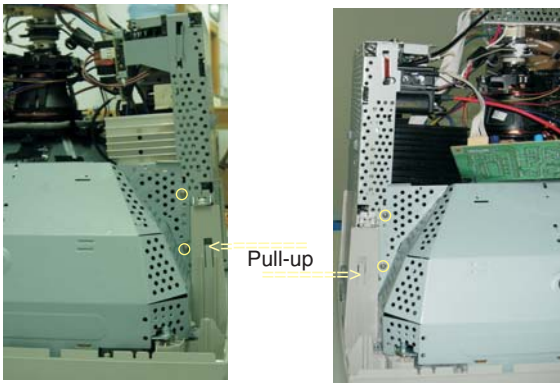
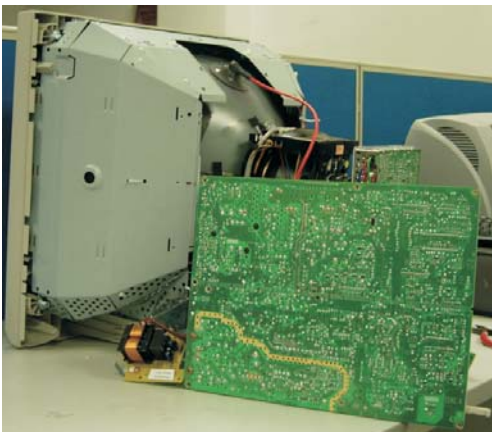

Fig. 8
Fig. 9
- Remove 4 screws for disconnect the Bottom tray as Fig. 8.
- Remove the bottom tray on press right and left side clip from fig. 8 to fig. 9.
- reconnect connectors, some wires and panels (chassis), service position can be available for DC/AC measurement as shown in Fig. 9.